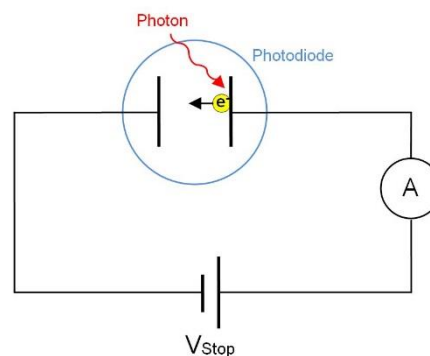

Figure 2: Photodiode Circuit
In this experiment, the kinetic energy of the emitted electron is measured by applying a potential difference (V) across the photodiode to just barely stop the electron from reaching the collector plate in the photodiode tube (Figure 2). The voltage is adjusted until the ammeter reads zero. The kinetic energy is then equal to the potential energy, which is the charge multiplied by the potential difference: